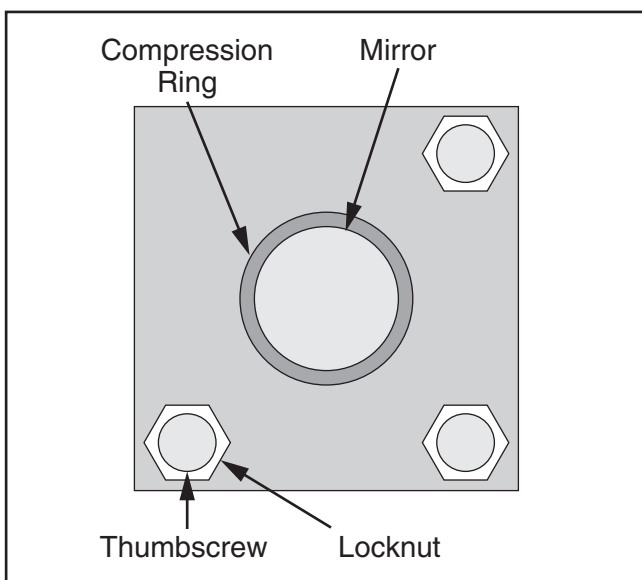

Figure 103. Typical mirror assembly.
28. Loosen lock nuts on (3) brass thumbscrews located behind Mirror #2 assembly (see **Figure 103**).